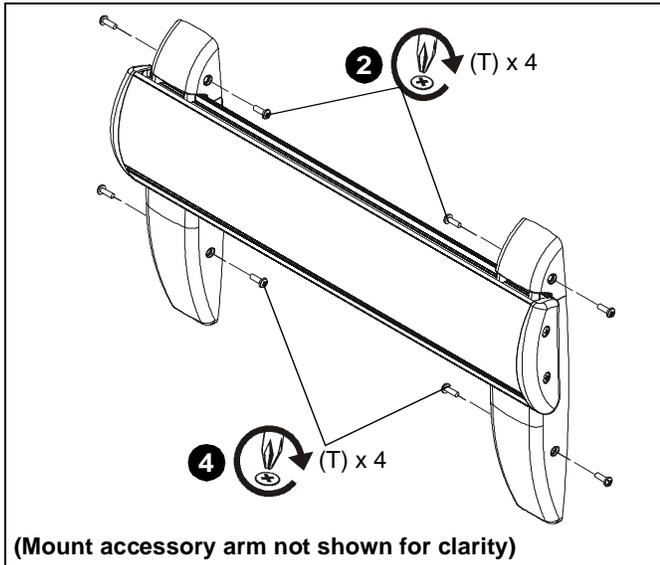

Figure 27
2. Secure wall bracket top covers (C) to wall bracket arms by installing four #8-32 x 1/2" Phillips pan machine screws (T) through holes in covers and wall bracket. (See Figure 27)
4. Secure wall bracket bottom covers (D) to wall bracket arms by installing four #8-32 x 1/2" Phillips pan machine screws (T) through holes in covers and wall bracket. (See Figure 27)